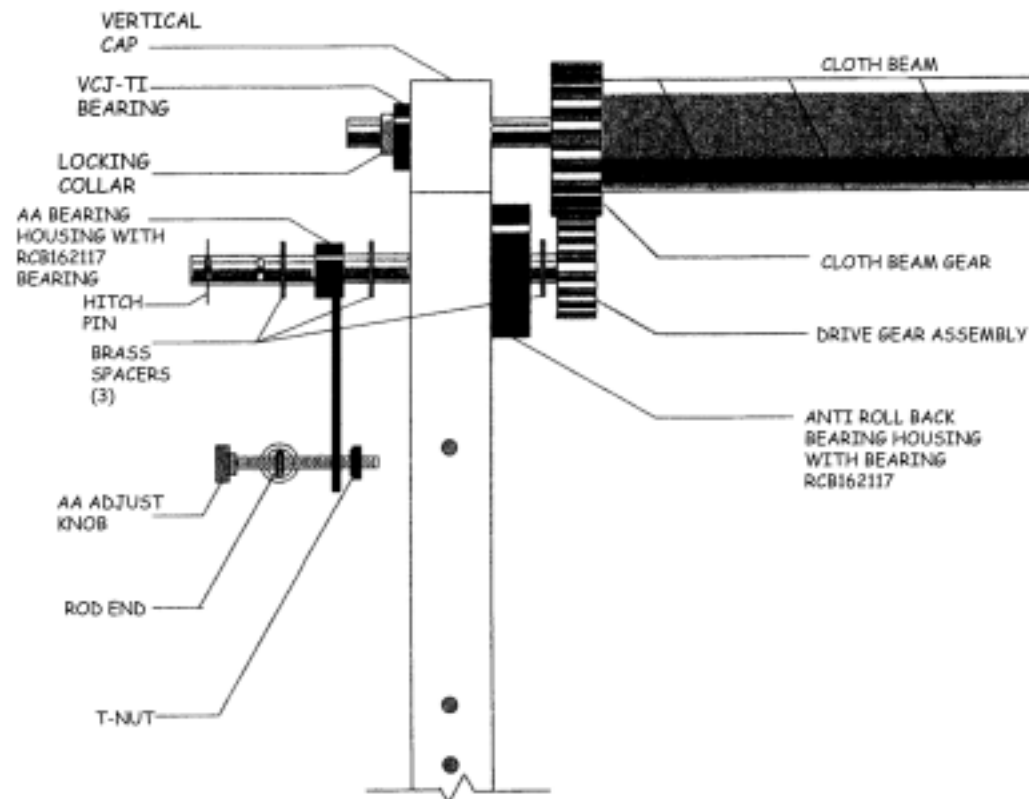

FIGURE 15
- 3.) These blocks will rest atop the Front Verticals (*Figure 15*). Lift the beam into position now. Engage the bolt ends in the appropriate holes in the verticals.